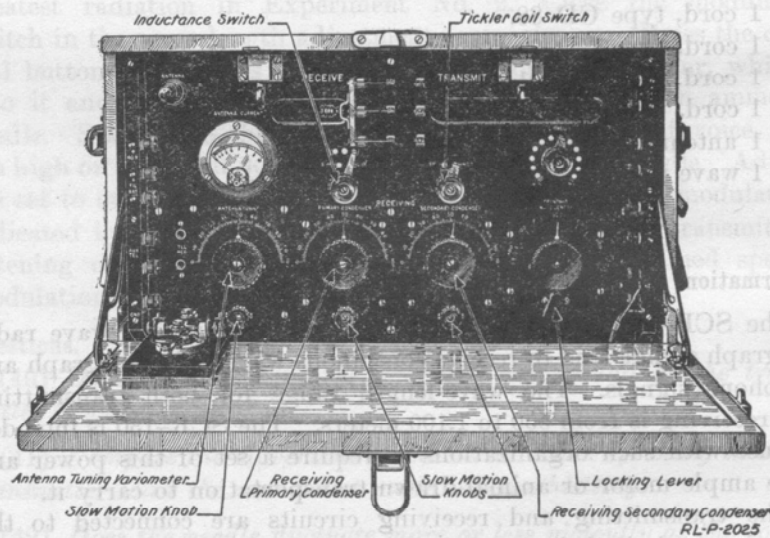

Fig. 84.—Set box BC-7 with front cover lowered to show panel.
The transmitting and receiving circuits are connected to the antenna, as desired, by a triple-pole, double-throw switch, mounted on the front of the set box panel. (See Fig. 84.)
1. Place the set box, type BC-7, on some convenient support. Unfasten the canvas cover and the three latches and lower the front door. (See Fig. 84.) Study the various controls on the panel and their markings. Notice the four large tuning knobs on the lower edge of the panel and determine the use of the smaller knobs located under the large knobs.